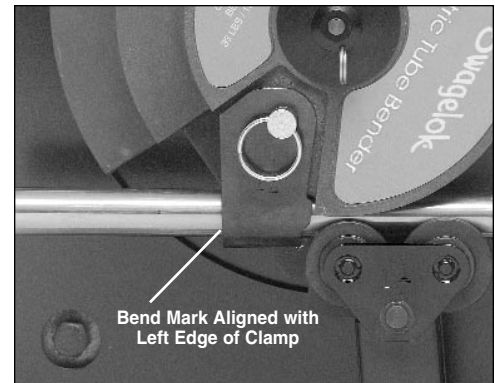

Figure 7
4. Slide tubing to align the bend mark with the left edge of the tube clamp. (See Figure 7.)